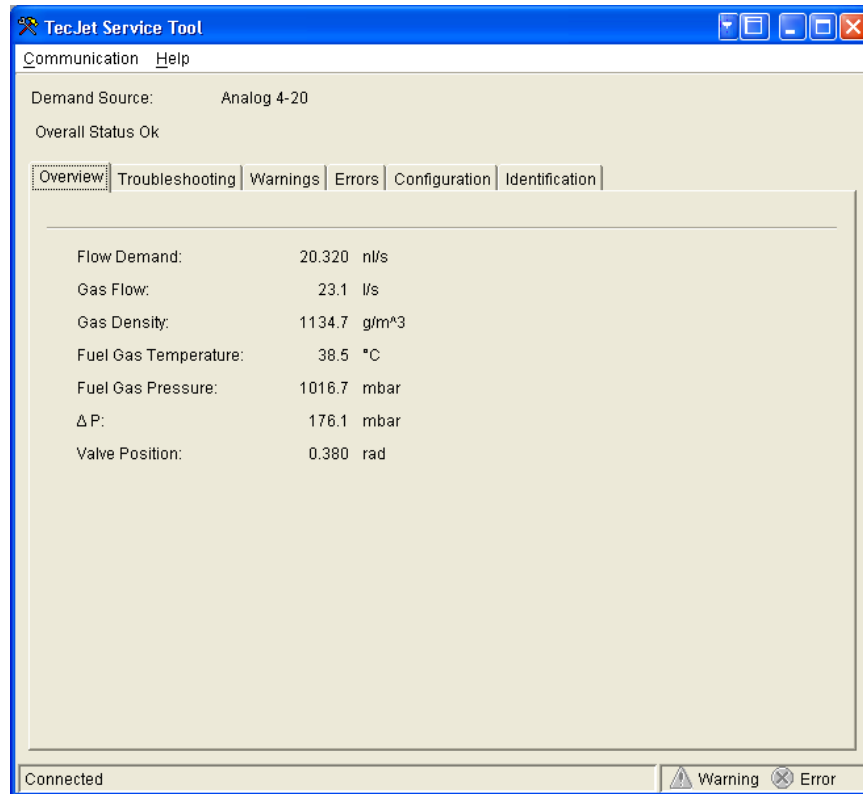

Figure 5-2. Overview Screen
Run the Service Tool program and, when prompted, select an available com port. This will connect the Service Tool to the TecJet 52 control. Once connected to the control, the Overview screen (Figure 5-2) will open and populate with current values and the status bar will display 'connected'. The TecJet 52 Demand Source and active Control Status messages are also displayed in an area common to all screens.
- Overview (Figure 5-2)